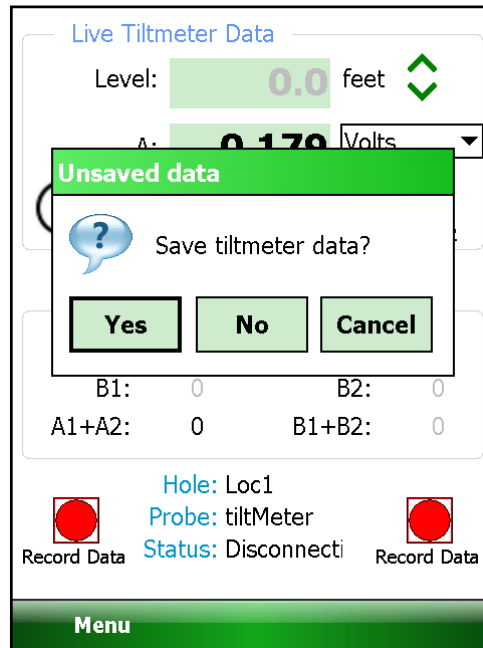

Figure 90 - Saving data query
10. Reverse the Tiltmeter orientation to A- and, again, tap “Record Data” to take the “A-” reading. Tapping “Menu->Exit Live Readings” will display the window in Figure 90.
7. Reverse the Tiltmeter orientation to A- and, again, tap “Record Data” to take the “A-” reading. For the Model 6101D, the “B-” reading is taken at the same time as “A-”. Tapping “Menu->Exit Live Readings” will display the window in Figure 90.